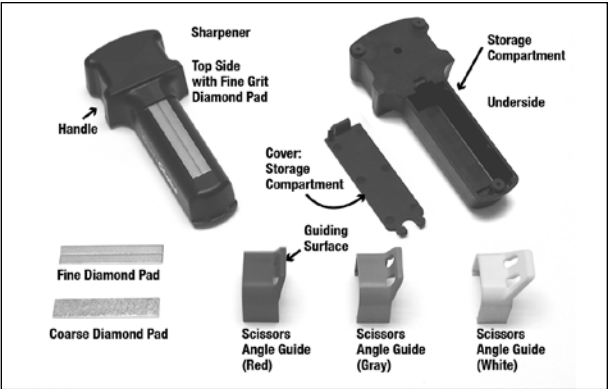

Figure 4. Model 490 Scissor sharpener and its components.
The Model 490, See Figure 4, consists of the Sharpener, two (2) diamond coated abrasive pads, and three (3) Angle Guides.
The sharpener is shown at upper left – Figure 4 with a Fine grit diamond pad in place on top of the sharpener. That abrasive pad, held in place by a magnetic strip (not shown) recessed under the pad can be removed and stored in the compartment under the sharpener.